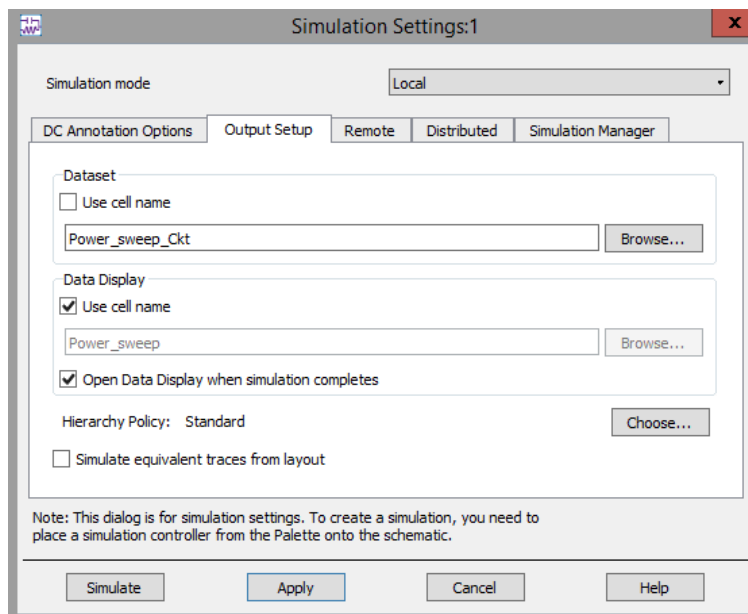

Figure 10: Simulation Settings
- Before running the simulation, go to Simulate ⇒ Simulate Settings from top menu and change the Dataset name to Power\_sweep\_Ckt as shown in Figure 10